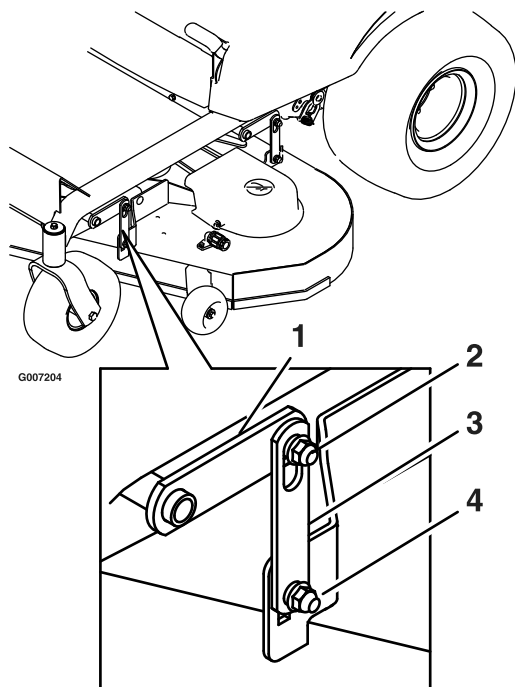

Figure 45
7. Loosen the leveling adjust locking nuts (item 4) on all four corners so that the deck is sitting securely on all four blocks. Make sure that the deck hangers are all the way down (at the top of the slot) and the deck lift foot lever is pushed back against the stop, then tighten the four leveling adjust locking nuts (Figure 45).